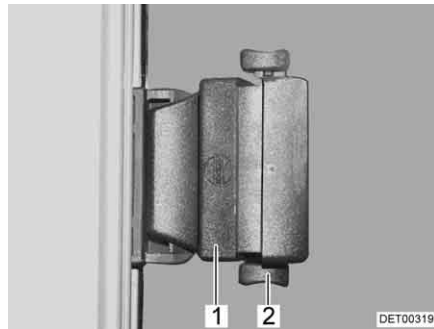

Fig. 102 Sliding window with pressure lock
- Release the lock (Fig. 102,2).
- Press handle (Fig. 102,1) and push it forward or backward at the same time.